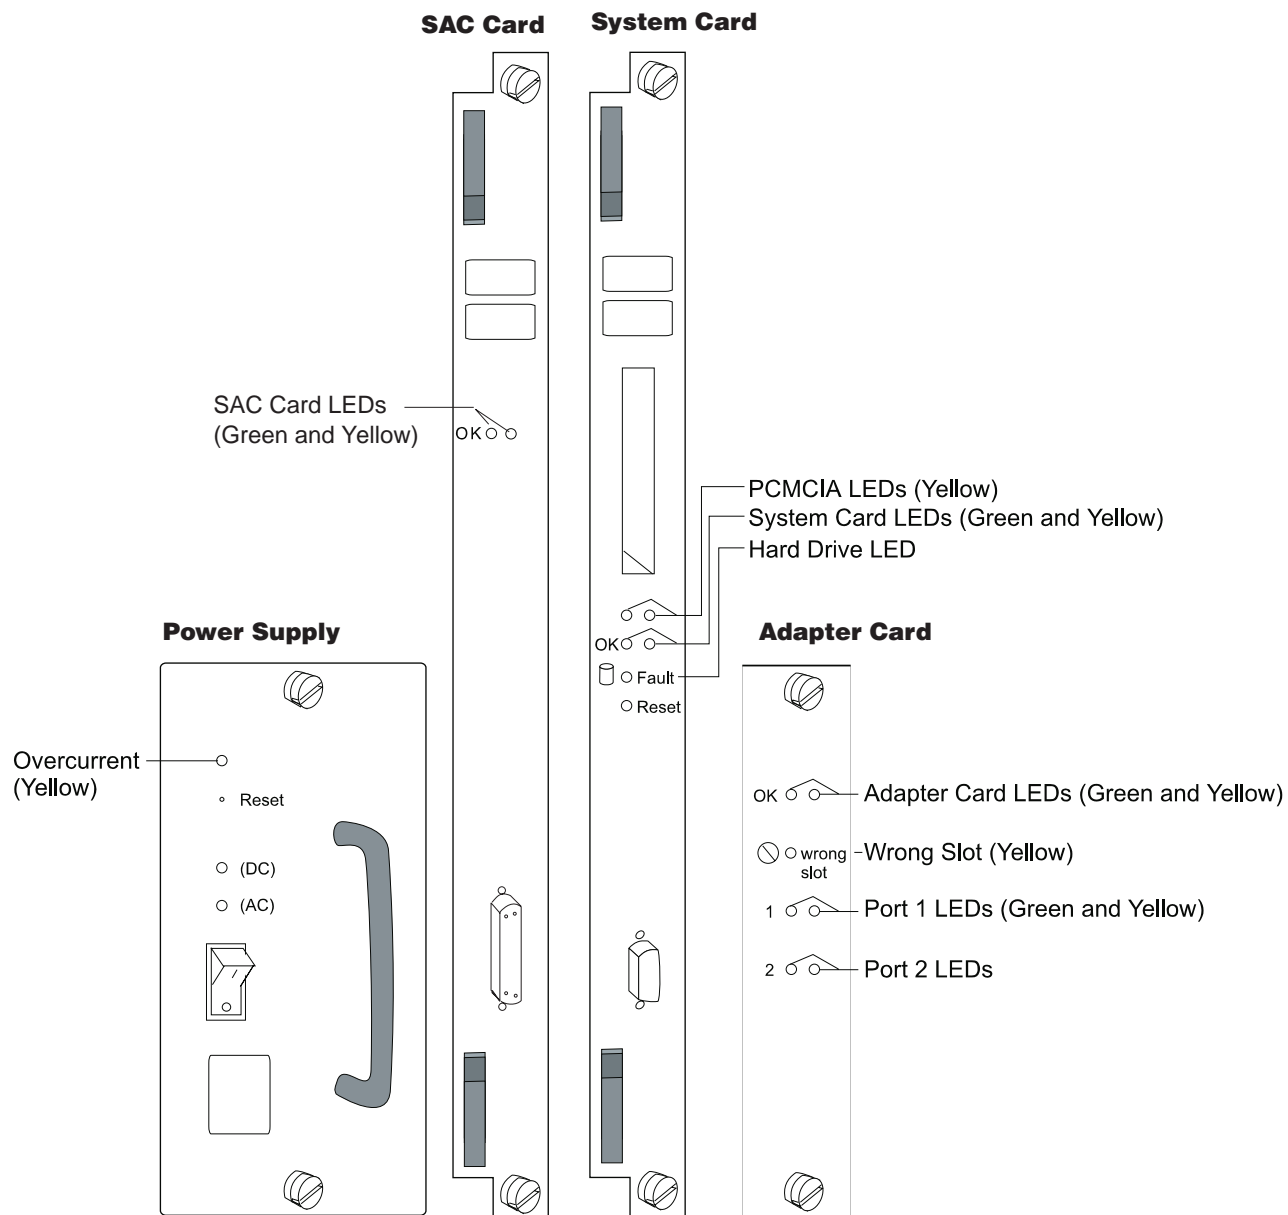

Figure 1. Power Supply, System Card, SAC card (if present), and Adapter Card LEDs
- ___ 4. Power ON; Then verify the LEDs (Refer to Figure 1 on page 9 and to page 10 for LEDs status meaning).